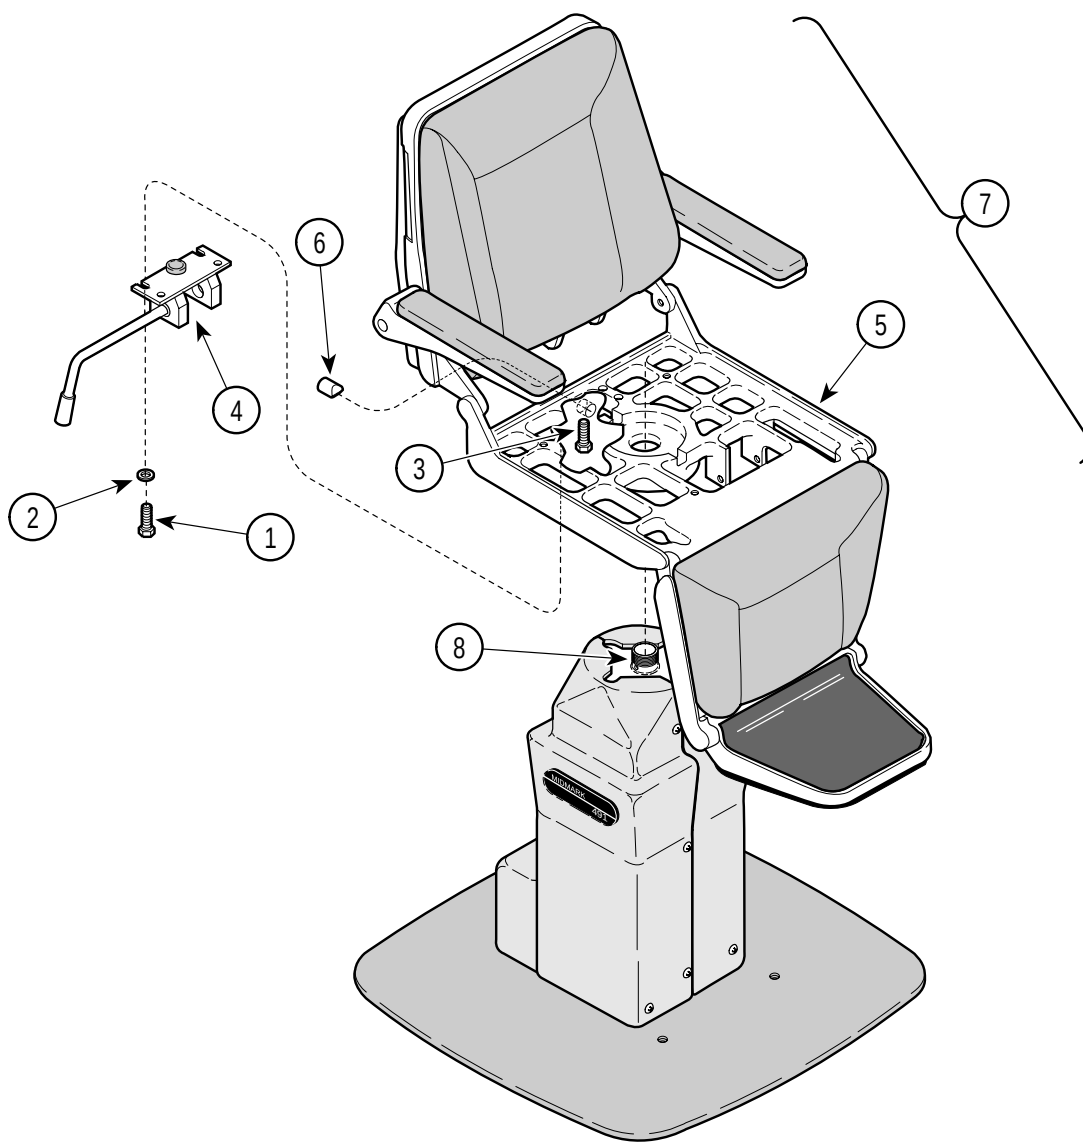

Figure 6.
- (1) Coat top surface of slide weldment (8, Figure 6) with Vaseline.